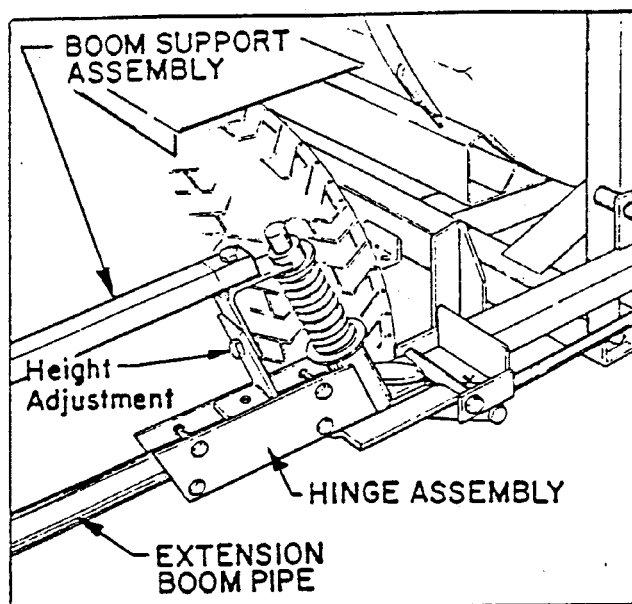

FIG. 8
- Insert an Extension Boom Pipe into the Pivot Assembly and secure with four 1/4" x 1-1/4" hex hd cap screws and lock nuts. See FIG. 8. Repeat on the opposite side to assemble the other Extension Boom.
- Attach the Boom Support Assembly to the Pivot Assembly, using a 5/16" x 1-1/2" screw and hex nut. See FIG. 8. Secure the two plates of the Boom Support Assembly to the Extension Boom Pipe, using two U-bolts and four lock nuts.